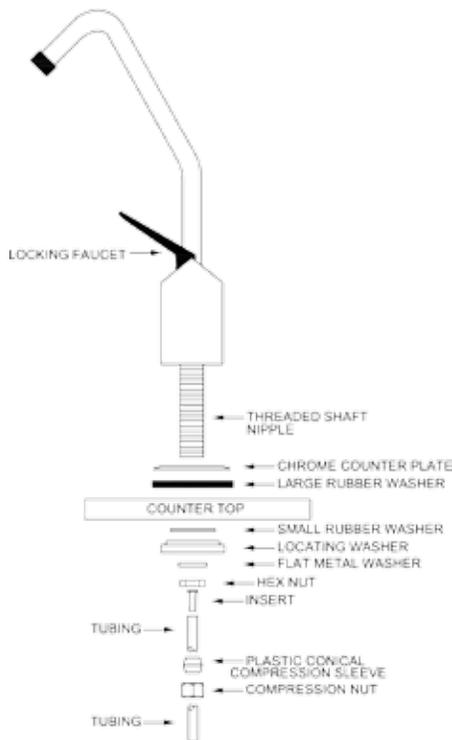

Figure 2
2. Place the small rubber washer, locating washer, flat metal washer, and hex nut in sequence over the threaded shaft and temporarily hand-tighten. (Fig. 2)